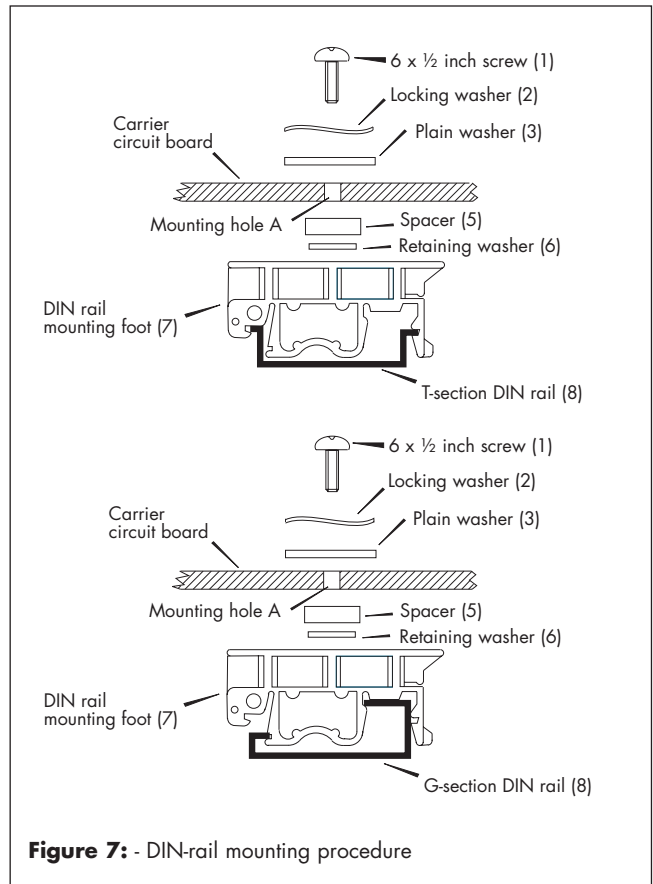

Figure 7: - DIN-rail mounting procedure
- Place a locking washer (2) and a plain washer (3) onto each No.6 x 1/2-inch screw (1) (figure 7).
- Insert the assemblies through the mounting holes on the carrier (figure 7).
- Fit spacers (5), retaining them with the washers (6) (figure 7).
- Locate the assemblies over the mounting feet and attach the screws (1) to the feet (figure 7).